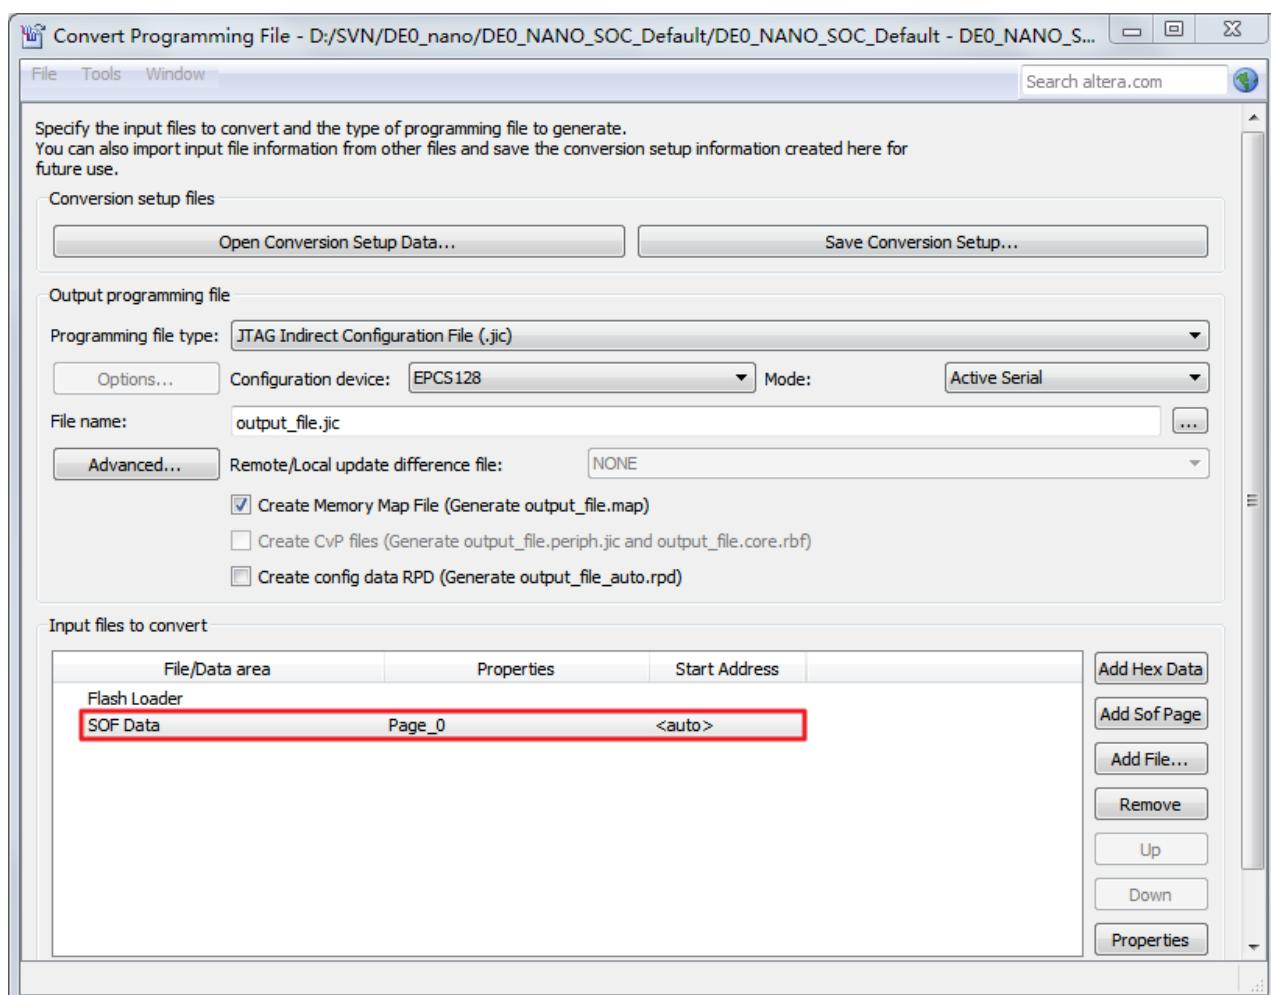

Figure 8-3 Dialog of “Convert Programming Files”
6. Click on the **SOF data** in the section of **Input files to convert**, as shown in Figure 8-3.